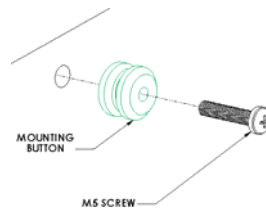
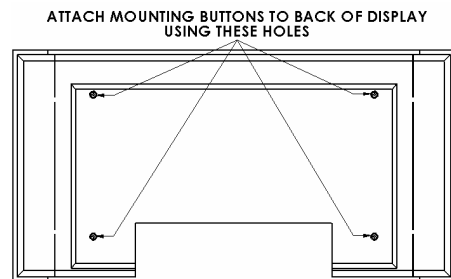

Figure 3
Figure 4
2. Attach mounting buttons to display using the M5 screws provided (see Figure 3 & Figure 4).